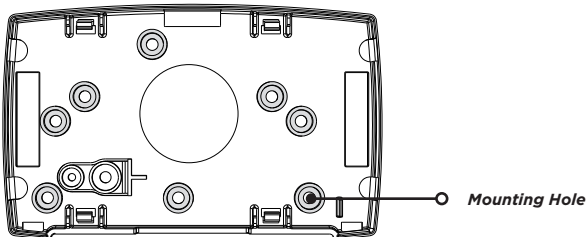

Figure 2: Mounting Hole Locations
2. Use the included screws in the desired mounting hole locations to attach the remote module to the surface. See the shaded mounting hole locations in Figure 2.